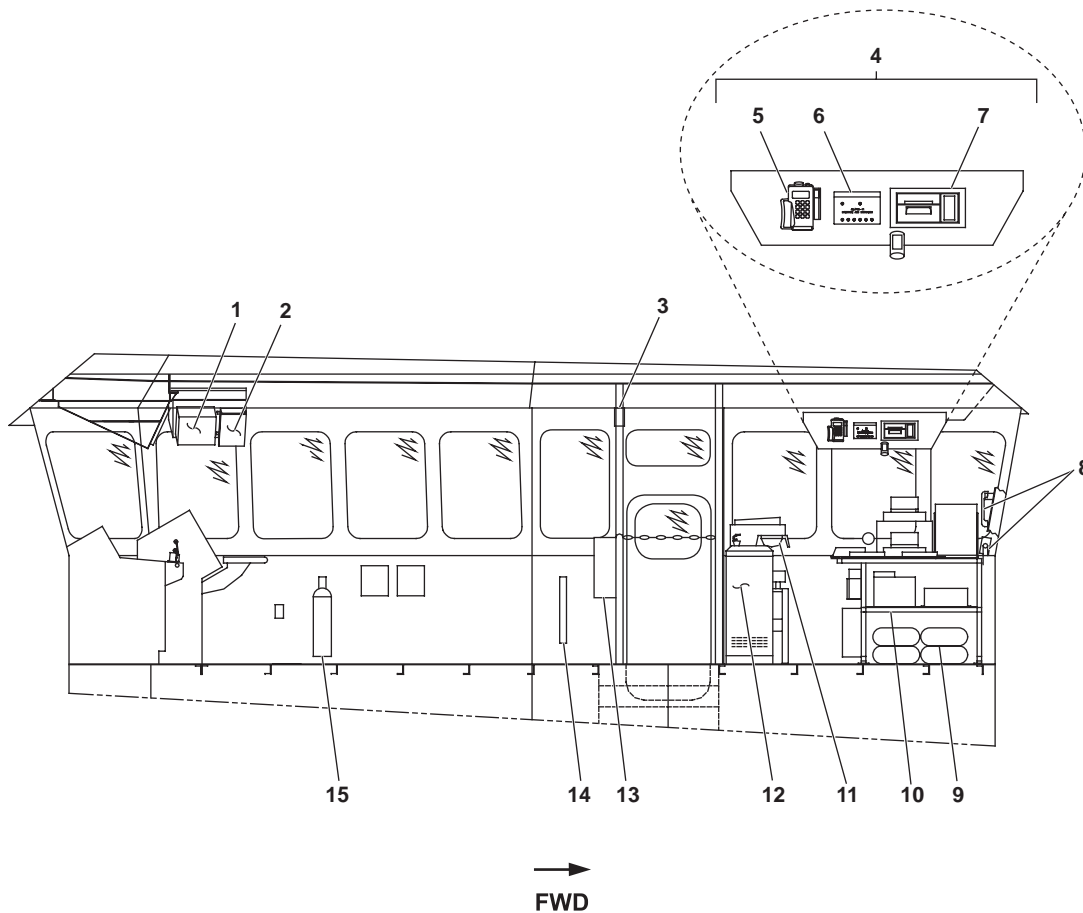
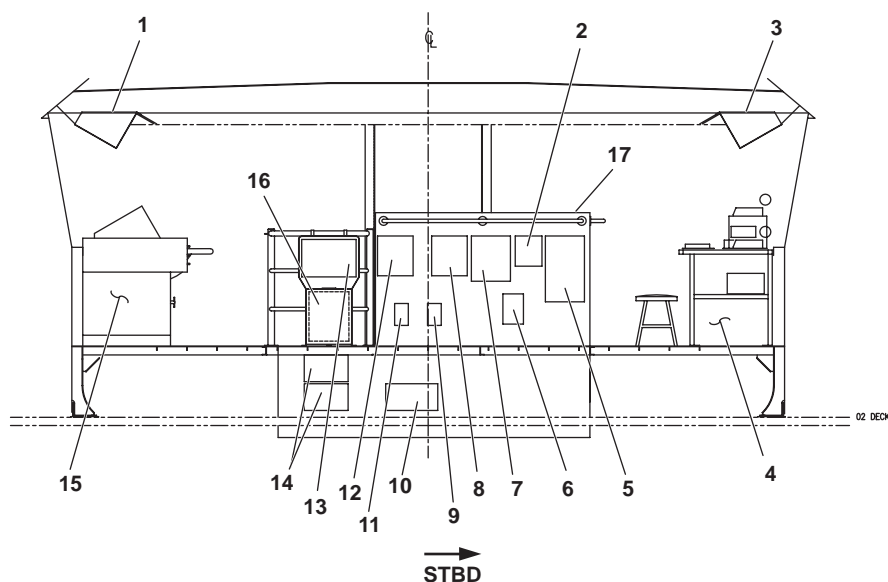

Figure 3. Pilothouse Interior (Looking to Starboard)
Figure 5. Pilothouse Interior (Looking Forward)
1. Towing strain gauge (figure 3, item 1). The towing strain gauge provides a display of the strain on the towing machines' wire ropes.
2. Fog horn timer (figure 3, item 2). The fog horn timer permits pilothouse personnel to select between programmed fog horn signals.
3. Fire alarm pull station (figure 3, item 3). The fire alarm pull station permits pilothouse personnel to manually actuate the fire and smoke detection alarm.
4. GMDSS suite (figure 3, item 4). The GMDSS suite provides emergency and distress communication between the Large Tug (LT), other vessels, and shore stations.
5. PLGR (figure 3, item 5). This GPS unit provides accurate positional information to pilothouse personnel and to various electronic navigational systems.
6. AN/PSN-11 switchbox (figure 3, item 6). The AN/PSN-11 switchbox permits interface between communication and navigation equipment.
7. Navigational Telex (NAVTEX) receiver (figure 3, item 7). The NAVTEX receiver receives and prints out navigational information.
8. High Frequency (HF)/Single Side Band (SSB) radio (figure 3, item 8). The HF/SSB radio provides long distance communication capability for the LT.
9. Survival suits (figure 3, item 9). Four survival suits are stowed beneath the GMDSS table. The survival suits maximize survivability in abandon ship situations.
10. GMDSS table (figure 3, item 10). The GMDSS table holds many components of the GMDSS suite and provides a work area for GMDSS operation.
11. Coffee maker (figure 3, item 11). The coffee maker brews coffee and maintains the brewed coffee at an acceptable temperature.
12. Drinking fountain (figure 3, item 12). The drinking fountain provides chilled potable water for personal consumption by pilothouse personnel.
13. Life preserver storage (starboard) (figure 3 item 13). Storage is provided for two life preservers.
14. Search And Rescue Transponder (SART) (figure 3, item 14). Two SARTs are provided, one for each life raft. The SART aids rescue personnel in locating the life rafts.
15. Fire extinguisher (figure 3, item 15). Three 10-pound dry chemical fire extinguishers are located in the pilothouse to permit extinguishing of small fires.
1. Aft chart table overhead console (figure 5, item 1). The aft chart table overhead console contains various pieces of navigation and communication gear including a marine Very High Frequency (VHF) radio, Precision Lightweight GPS (Global Positioning System) Receiver (PLGR), and wind speed/direction readouts. See figure 2 for details.
2. Uninterrupted Power Supply (UPS) bypass and disconnect switch box. (figure 5, item 2). The UPS bypass and disconnect switch box permits bypassing or disconnection of the UPSs for the C4ISR gear.
3. GMDSS table overhead console (figure 5, item 3). The GMDSS table overhead console holds many of the GMDSS components. See figure 3 for details.
4. GMDSS table (figure 5, item 4). The GMDSS table holds many components of the GMDSS suite and provides a work area for GMDSS operation.
5. 120V radar power distribution panel (figure 5, item 5). The 120V radar power distribution panel provides circuit breakers for the X band and S band radars.
6. Radar distribution panel isolation transformer (figure 5, item 6). The radar distribution panel isolation transformer protects the radar gear from electrical anomalies.
7. 24V general alarm battery charger (figure 5, item 7). The 24V general alarm battery charger maintains the charge for the general alarm battery bank.
8. 24V GMDSS battery charger (figure 5, item 8). The 24V GMDSS battery charger maintains the charge for the GMDSS battery bank.
9. GMDSS disconnect switch (figure 5, item 9). The disconnect switch secures power to the 24V GMDSS battery charger.
10. UPS unit (figure 5, item 10). This UPS unit provides uninterrupted power for radio room components.
11. 12 V disconnect switch (figure 5, item 11). The disconnect switch secures power to the 12V marine radio battery charger.
12. 12V marine radio battery charger (figure 5, item 12). The 12V marine radio battery charger maintains the charge for the 12V marine radio battery.
13. Gyrocompass control unit (figure 5, item 13). The gyrocompass control unit provides controls for the gyrocompass.
14. Integrated Bridge System (IBS) UPS units (figure 5, item 14). The IBS UPS units provided uninterrupted power to the IBS gear.
15. Chart table (figure 5, item 15). The chart table provides open working space for navigation charts.